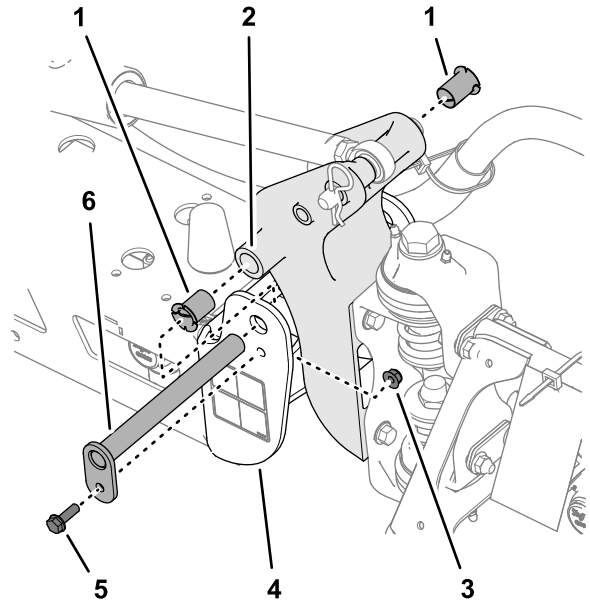

Figure 108
- Remove the bolt and nut that secure the pivot pin, and remove the pin (Figure 108).
- Remove and inspect the nylon bushings from the front and back sides of the pivot bracket (Figure 108).
- Lubricate the nylon bushings with a small amount of oil, and install the bushings into the pivot bracket (Figure 108).
- Align the holes in the pivot bracket with the holes in the end channel (Figure 108).